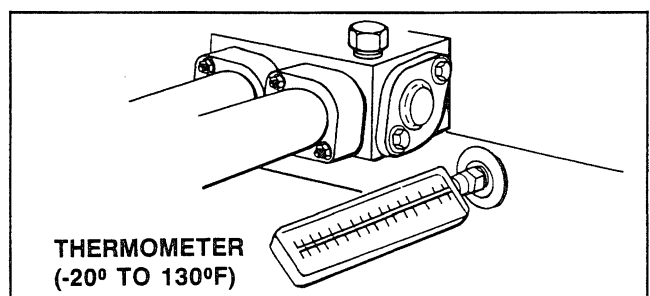

Fig. 18 Temperature Check
2. With the filter pump off, remove the drain valve located on the right side of the header, and install a thermometer (see Fig. 18).